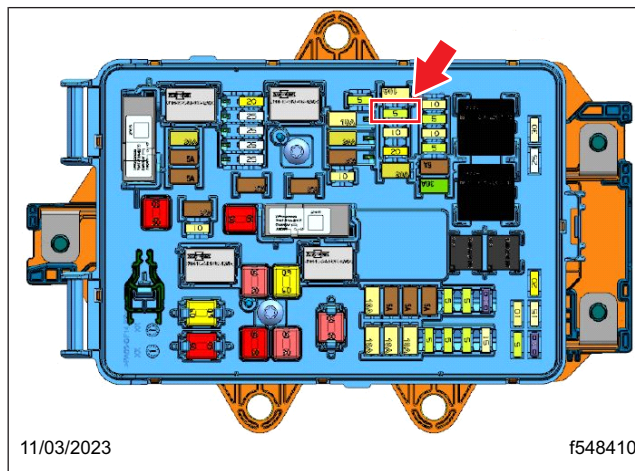

Fig. 59, Installing the 5A Fuse in VPDM Fuse Position F6
25.9 Install the 5A fuse (23-12537-005) in the VPDM fuse position F6. See Fig. 59.